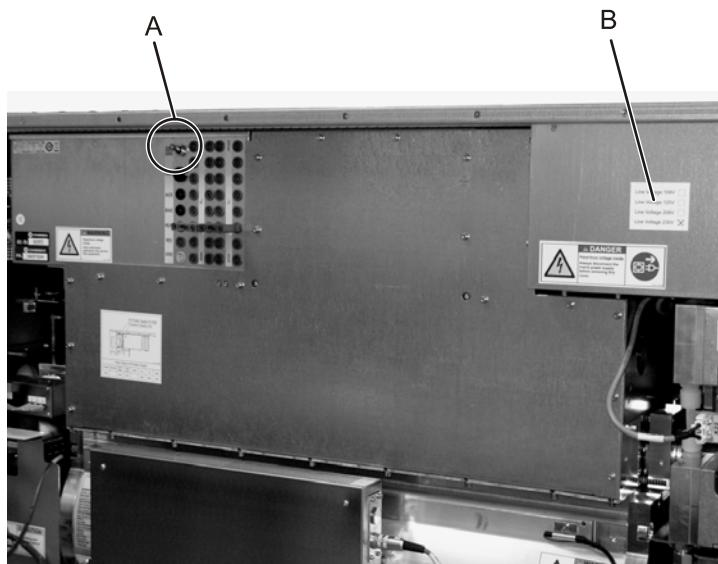

Figure 146: Frequency and transformer settings
3. Check the label (see Figure 146, B) to ensure that the mains input transformer is correctly set .